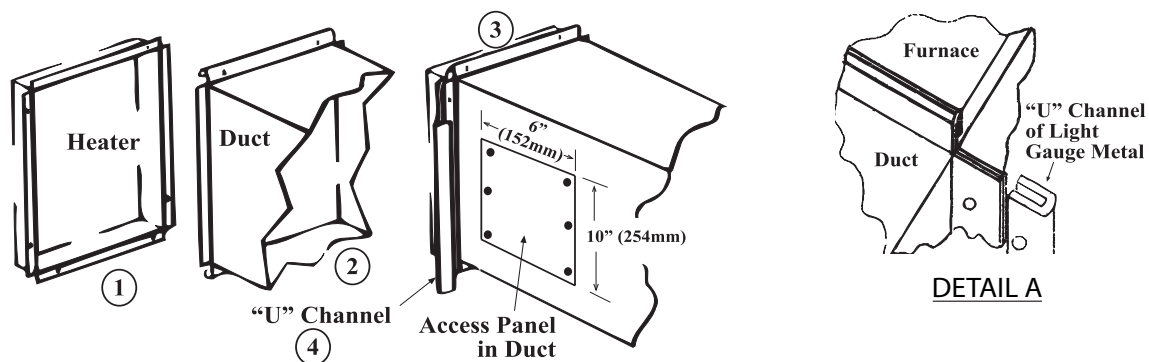

Figure 7. Connecting Ductwork to Furnace
- **Supply Air Duct/Furnace Horizontal Connection:** The seal between the furnace and the duct must be mechanical using U-type flanges on the top and bottom of the connecting duct to ensure tight joints and an airtight fit. Refer to **Figure 7** and perform the following steps:
- (1) Ensure that flanges on the furnace (heat exchanger) turn out as shown.
- (2) Shape duct connection as shown: U-type on top and bottom and L-type on sides.
- (3) Slide U-channels over furnace top and bottom flanges making connection.
- (4) Form U-channels to seal sides (see DETAIL A) and drill and lock with sheet metal screws.
- **Access Panels:** Install removable access panels (see **Figure 7**) on both the upstream and downstream sides of the furnace. The access panels must be accessible when the furnace is in service and should be a minimum of 6 × 10 inches (152 × 254 mm) in size so smoke or reflected light may be observed inside the casing to indicate the presence of leaks in the heat exchanger. Ensure that the access panels are installed in such a manner so as to prevent leakage.